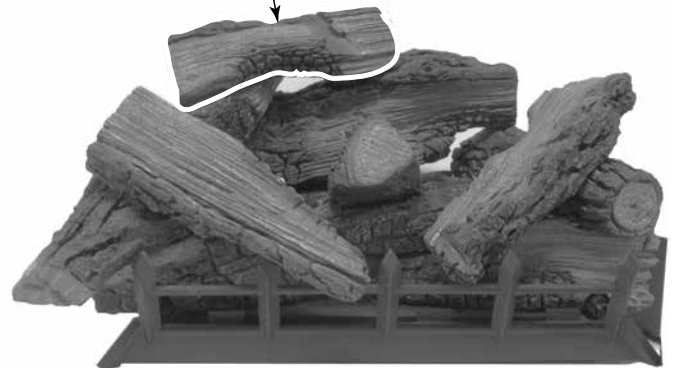

Figure 6.25 - Log #12 Placement
12. Place log #12 onto mid left log (#8) and mid rear log (#7) by placing notch on bottom of log onto locating block on log #8. Rest right end of log onto top of log #7. See Figure 6.25.